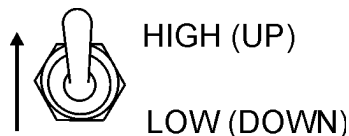

Figure 59. Engine Speed Switch (High)
2. Set the engine speed switch (Figure 59) to the "**High**" position.